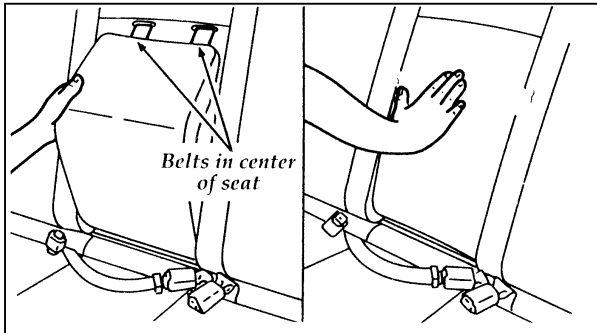

Figure 11: Stowing the built-in child seat
2. Make sure shoulder belts are in the center of the back of the child seat. Attach the cushion retention clip. Fold the child seat up into the seatback while tucking the top edge of the child seat under the flap. See Figure 11.